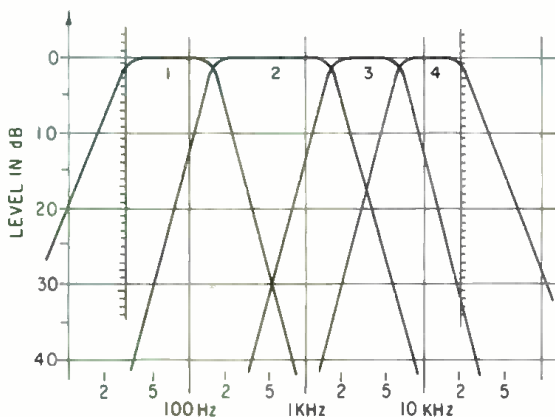

Figure 9. Weighting filter characteristics.
The level (E), which is held constant by the control system, passes through a weighting network and is processed as a peak value. The weighting network (FIGURE 9) has an 18 dB/octave filter steepness. This assures that, for example, a bass note will not cause breathing tape noise.